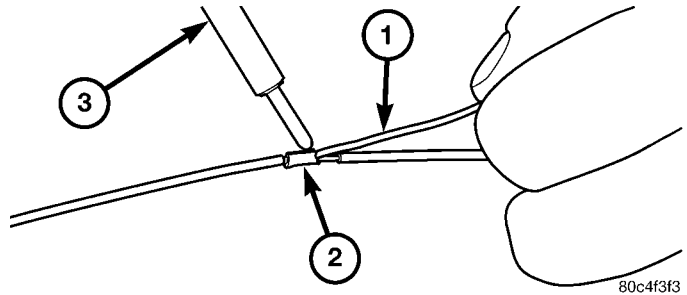

Fig. 16 SOLDER SPLICE
(5) Solder the connection together using rosin core type solder only (Fig. 16).